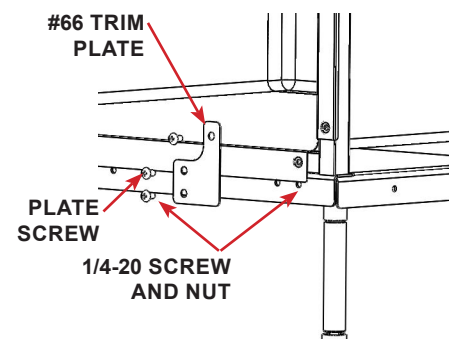

FIGURE 2.31 - Trim Plate #66
STEP 23: Remove the bottom right trim plate screws (2 each) from the last cage in the row. See FIGURE 2.31
STEP 24: Install, but do NOT fully tighten screws, trim plate (#66) using the screws removed in the previous step. The bottom hole requires 1/4-20 screw and nut to secure the cage to the platform frame. See FIGURE 2.31